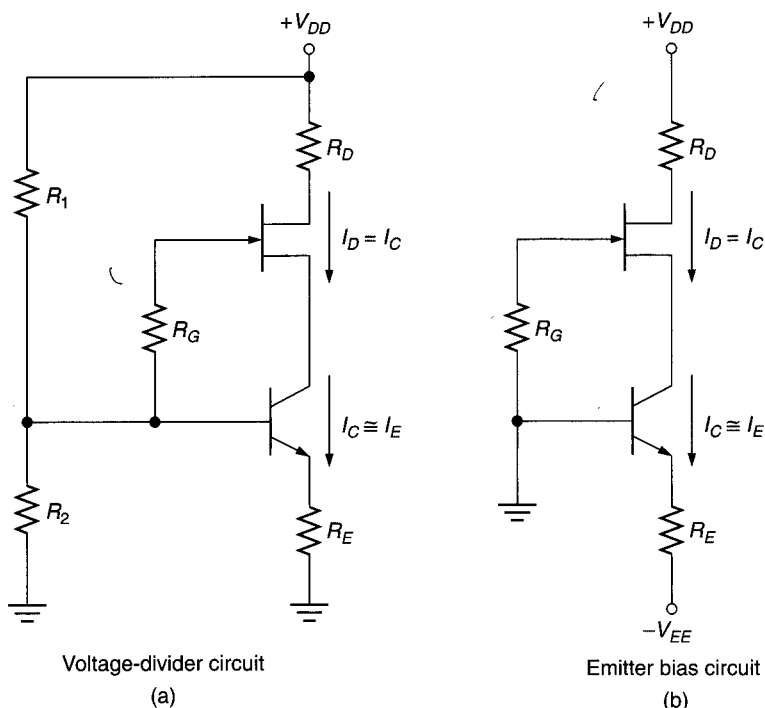

FIGURE 12.29 Current-source bias.
**Current-source bias** provides high  $Q$ -point stability by making the value of  $I_D$  independent of the JFET. Two current-source bias circuits are shown in Figure 12.29. For both circuits, the JFET drain current is equal to the *collector* current of the BJT. By formula,